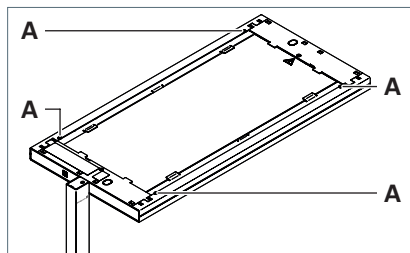

Fig. 18: Test points (DGUV V3).
- Test on the top of the luminaire head at one of the bare screws **A**, see Fig. 18.